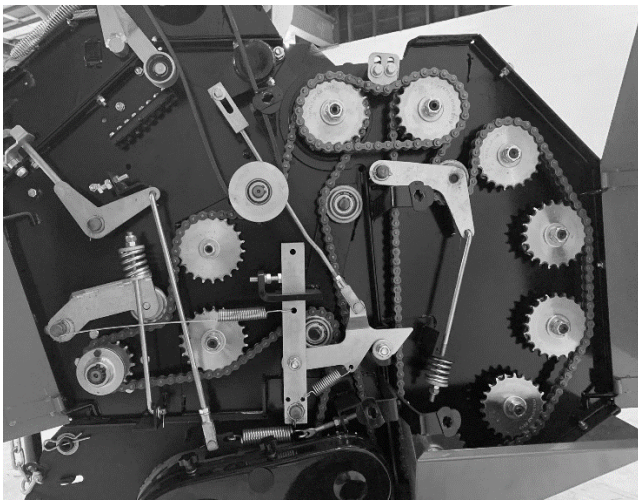

Figure 7 Left side of baler
The baler's rollers are turned by a series of drive chains (Figure 7, A). Tension springs (B) provide proper tension to each chain. See Section 5.3.1 for chain tension specifications.